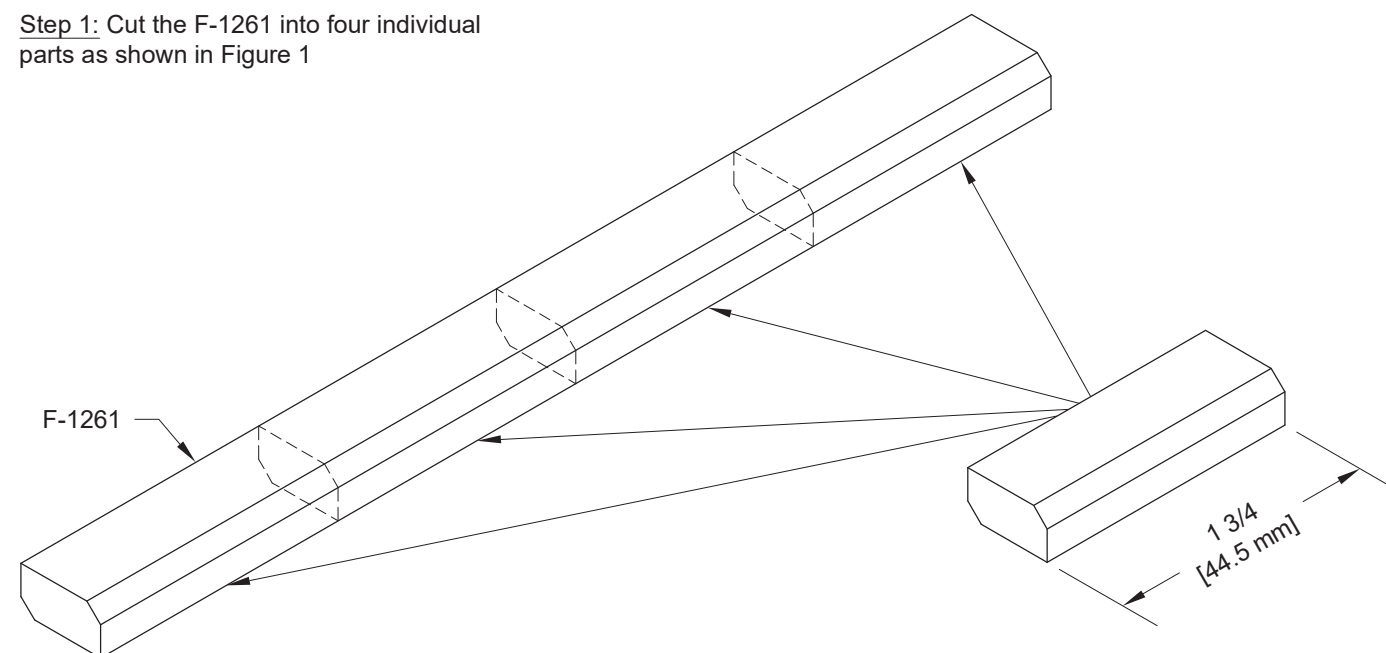

FIGURE 1: CUTTING THE F-1261 SPACER
The Right Fuselage Pin is shown in Figure 1, repeat the process for the Left Fuselage Pin inserting the screw on the opposite side.
Step 1: Cut the F-1261 into four individual parts as shown in Figure 1